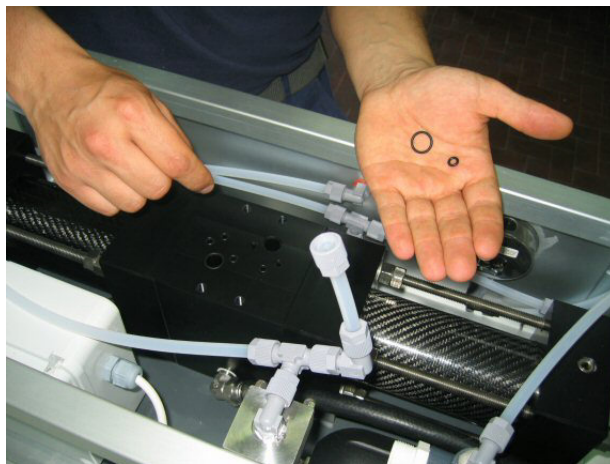

Fig. 21 – Positioning orings
- 8) Position the 8 o-rings between the top and bottom ERS parts (Fig.21);